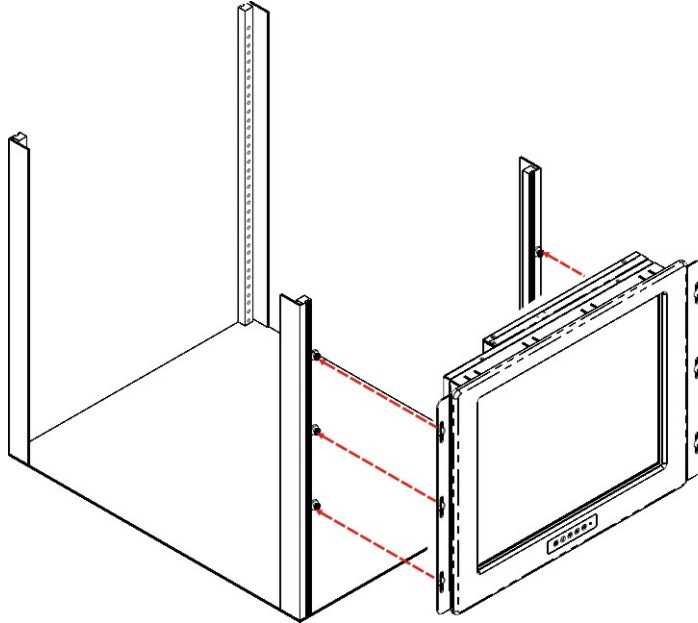

Figure 5-22: Rack Mounting (DM-190)
Step 3: Carefully insert the slotted holes of the brackets on the monitor through the bolts on the rack and gently pull the monitor downwards until the bolts rests securely in the slotted holes. (See **Figure 5-22**). Ensure that all six of the bolts fit snugly into their respective slotted holes.